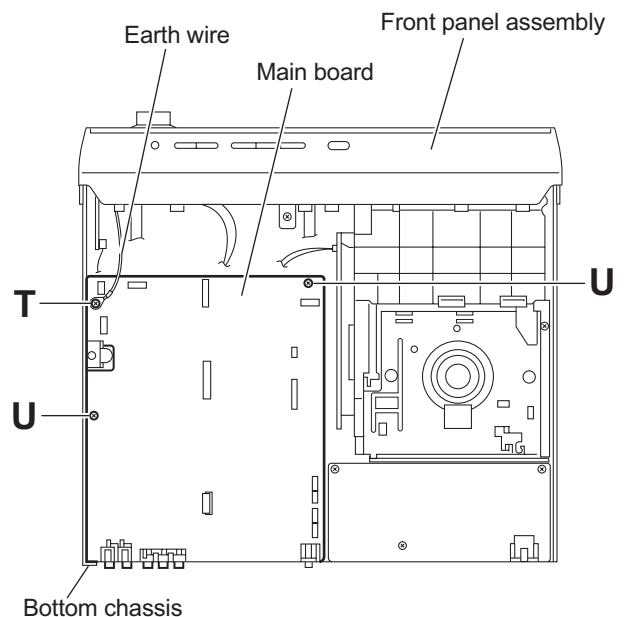

Fig.13
- (7) From the top side of the main body, remove the screw **T** and two screws **U** attaching the main board to the bottom chassis. (See Fig.13.)